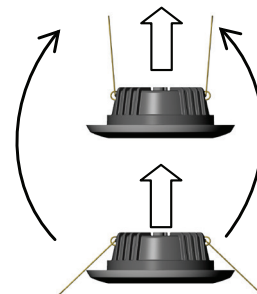

Figure 4
**A. Spring-Mount Version (Sigma Small or Sigma Large):** With trim ring attached, gently bend back the mounting springs and insert the spring tips into the cutout hole in the mounting surface. (See Figure 4)